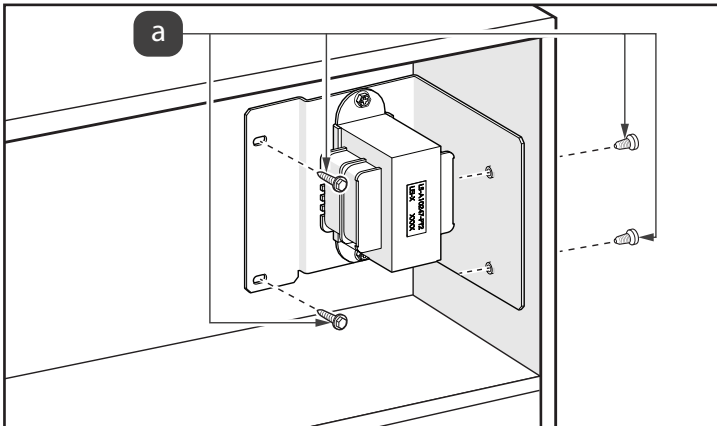

Figure 13 New Transformer Mounting
1. Use new transformer bracket to install new transformer in the control panel compartment, see Figure 13(a). Ensure all screw holes and openings not being used are properly closed off and sealed.